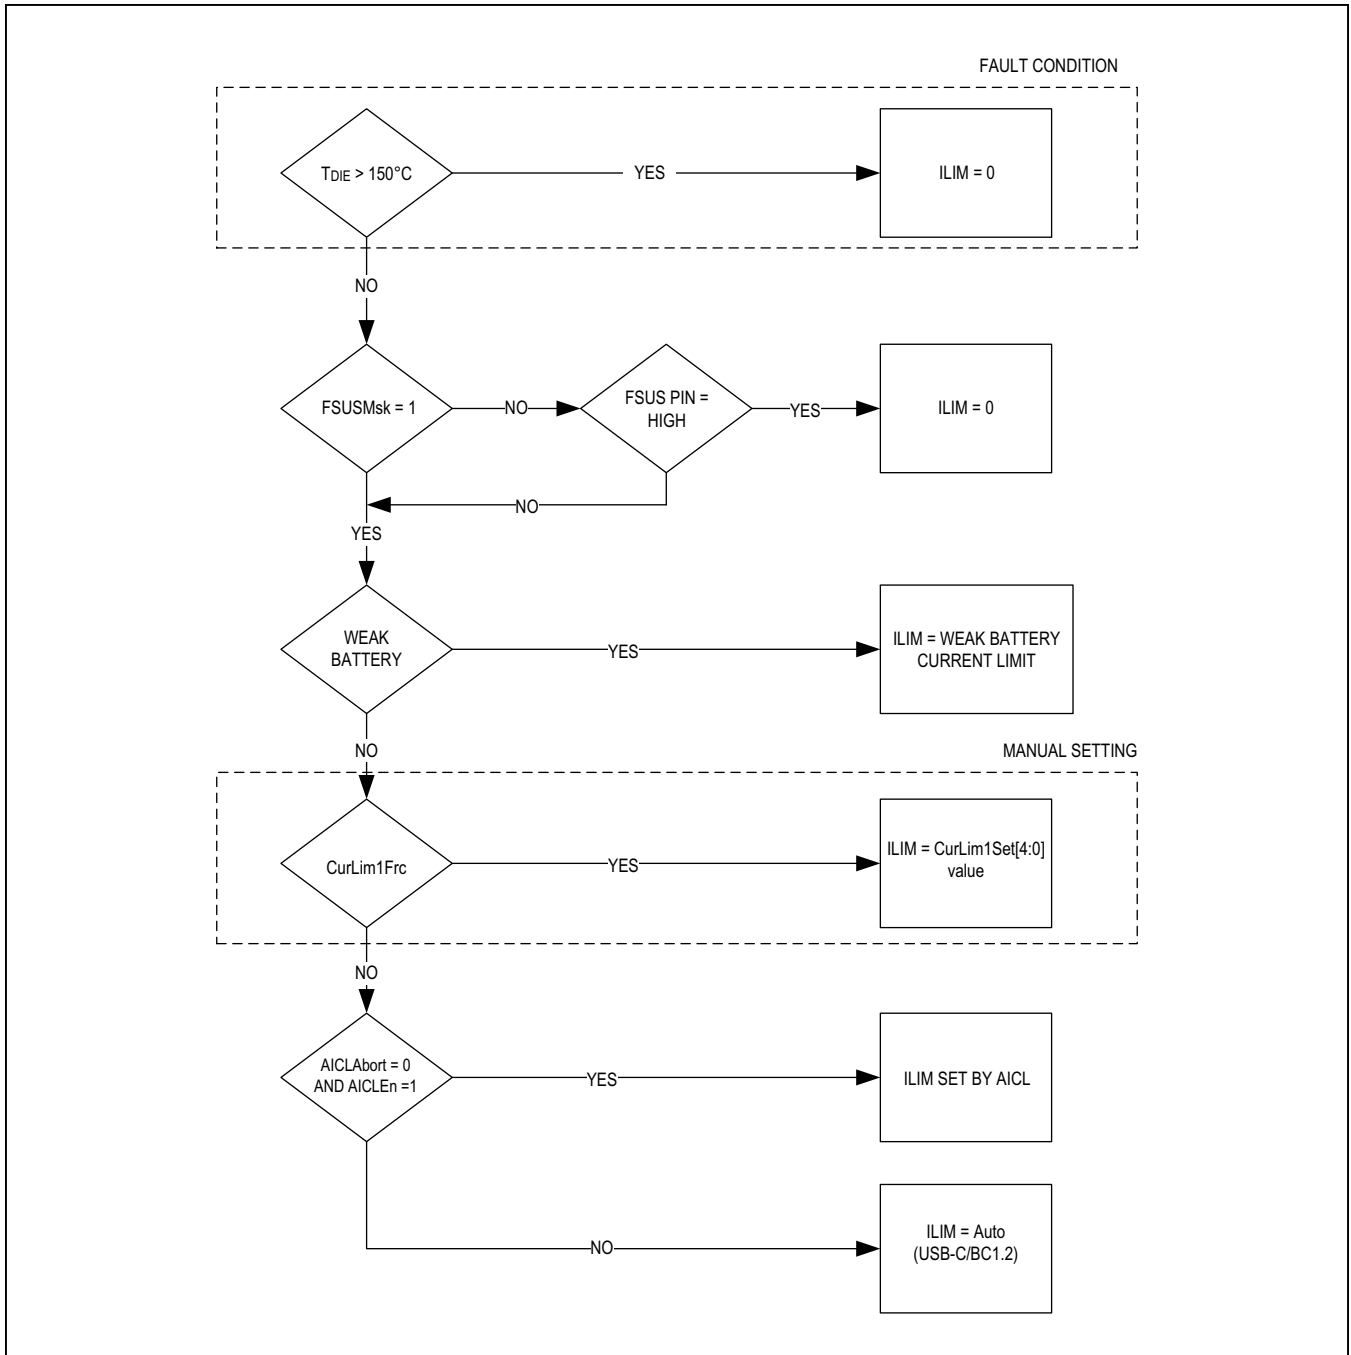

Figure 1. Input Current Limit Settings Flow Diagram
- 1) CHGIN Input Current Limiting: The CHGIN input current is limited to prevent input overload. The current limit can be automatically selected through charger detection to match the capabilities of the source. The result is indicated by SpvChglim[4:0] in register 0x22. See Table 1a for more details. It can also be manually set through CurLim1Frc and CurLim1Set[4:0] in register 0x21. Figure 1 illustrates how the current limit setting is selected.